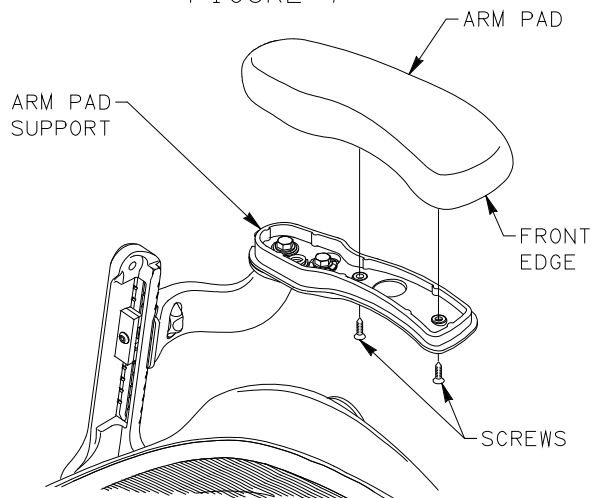

FIGURE 2
2. USING #2 PHILLIPS HEAD SCREWDRIVER REMOVE AND SET ASIDE (2) SCREWS FASTENING ARM PAD TO ARM PAD SUPPORT. REMOVE ARM PAD BY PULLING UP AND PIVOTING BACK FROM FRONT EDGE. SET ASIDE ARM PAD. SEE FIGURE 2.